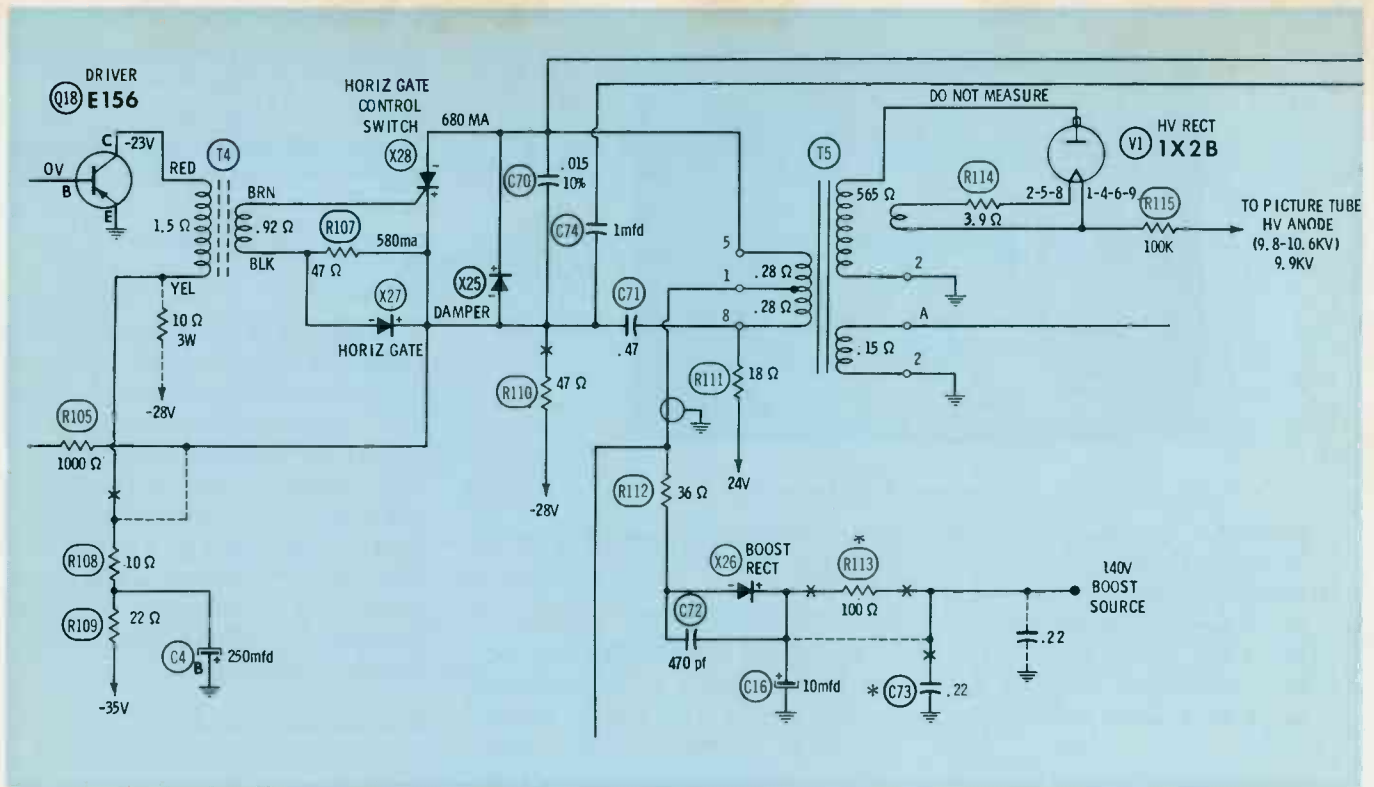

Fig. 23. Increase in R114 decreases filament voltage and causes blooming.
- Increase in value of a filament-dropping resistor (R114 in Fig. 23).
- d. Defective gate diode (X27 and X28 in Fig. 23).